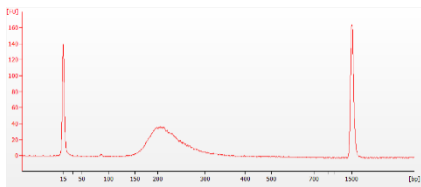

Figure 2 Agilent 2100 Bioanalyzer Fragment Size Distribution Results of the Purified PCR Product
- 3.9.2 Assess the fragment size distribution of purified PCR products with electrophoresis-based equipment such as a Bioanalyzer, Tapestation (Agilent Technologies), LabChip® GX, GXII, GX Touch (PerkinElmer), or Fragment Analyzer™ (Advanced Analytical). Figure 2 shows the final size distribution is 150 bp - 300 bp.